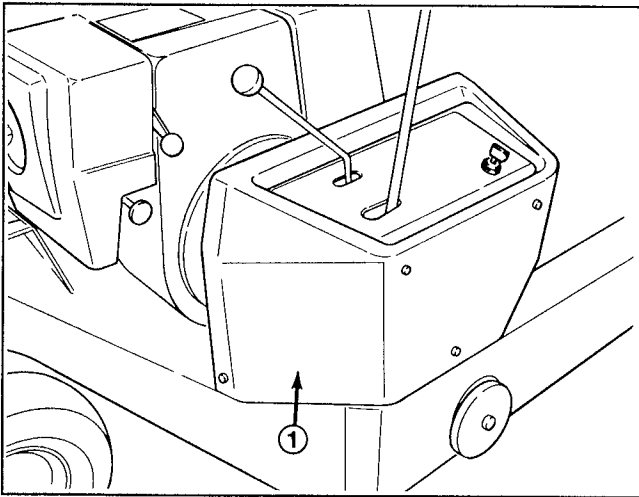

Figure 39
- A. Remove control cover to expose adjusting screws (Fig. 39).